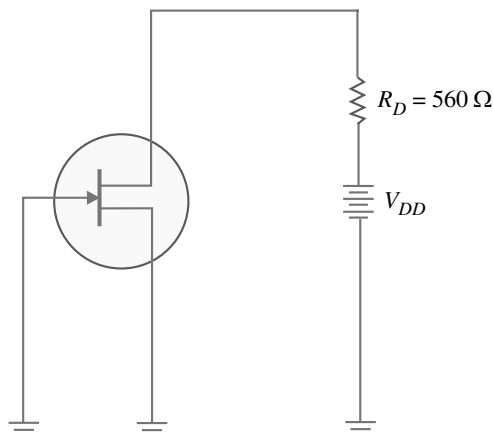

Fig. 17.36
**Example 17.24.** For the *n*-channel JFET shown in Fig. 17.36,  $V_{GS(off)} = -4\text{ V}$  and  $I_{DSS} = 12\text{ mA}$ . Determine the minimum value of  $V_{DD}$  required to put the device in the constant-current region of operation.